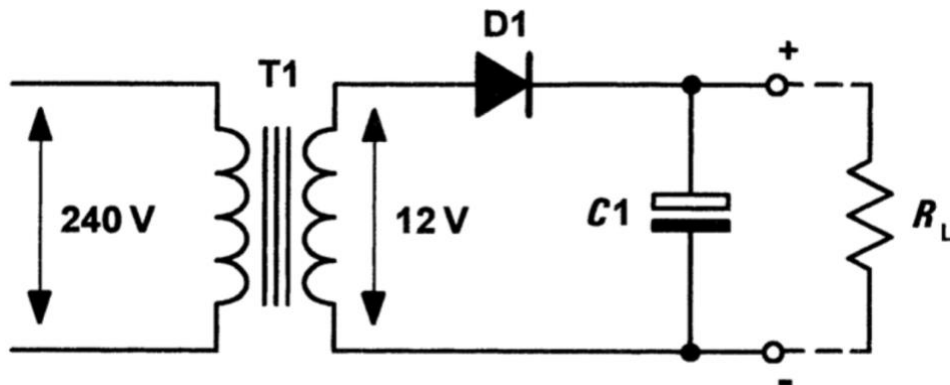

Figure 1.7 A simple half-wave rectifier circuit with reservoir capacitor
- Fig. 1.7 shows a simple half-wave rectifier circuit with reservoir capacitor.
- The circuit of Fig. 1.7 is thus able to maintain a reasonably constant output voltage across  $R_L$ . Even so,  $C_1$  will discharge by a small amount during the negative half-cycle periods from the transformer secondary.